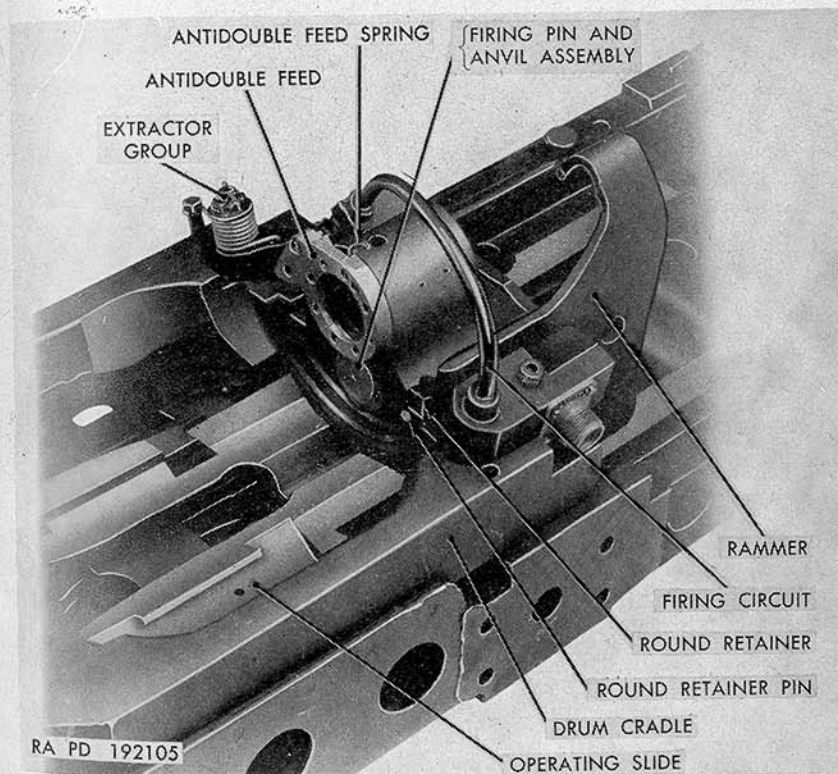

Figure 65. Drum cradle group installed on receiver.
b. The drum cradle also serves as a mount for the firing circuit (fig. 65), the extractor group, the gas cylinder group (par. 39b), the firing pin and anvil assembly, and the barrel and drum latches (fig. 45).